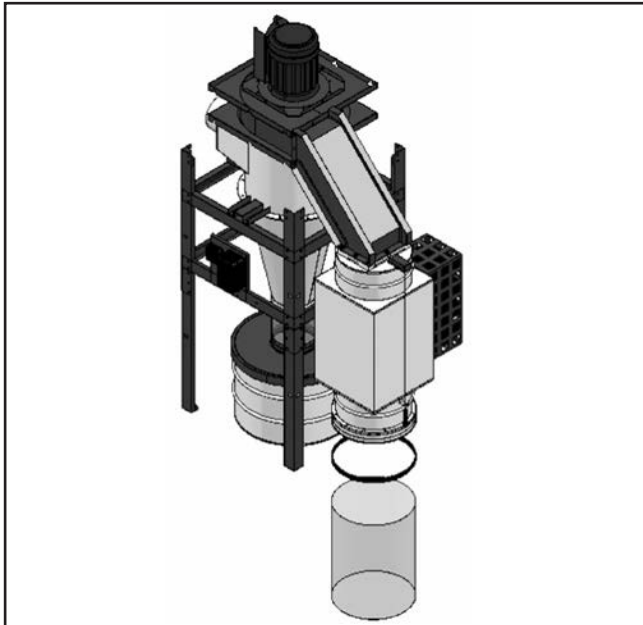

Figure 19. Installing collection bag under HEPA filter.
20. Slip plastic collection bag around opening under canister filter, and secure with metal bag clamp (see **Figure 19**).